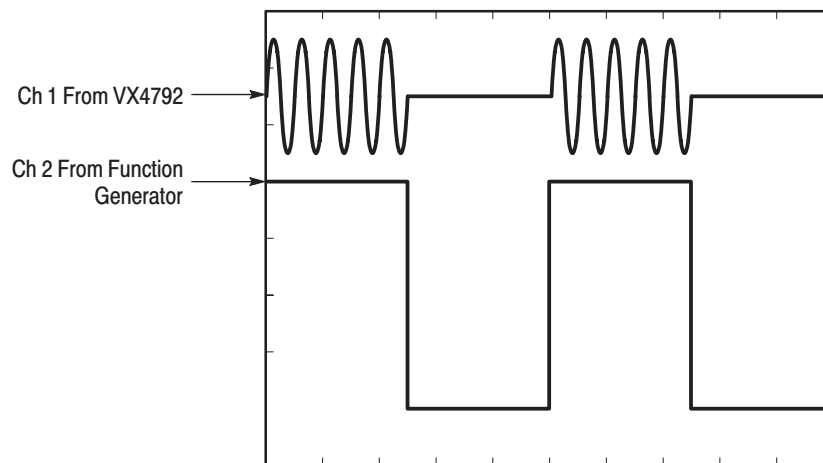

Figure F-7: Waveform Output Signal with Positive Gate Signal
- b. Check gated mode with positive gate signal: Check that the oscilloscope displays a sine wave when the gate signal is high (Figure F-7).